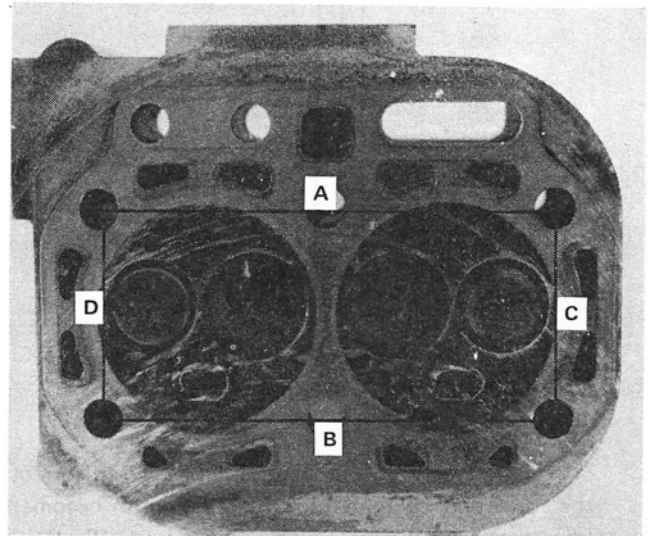

Figure 7
2. Place the cylinder head on a surface plate. Measure for distortion of the cylinder head by inserting a feeler gauge at four points, A thru D, Figure 7. If distortion is more than the specified limit, page 27, it may be skimmed with a surface grinder to within specifications, page 27.